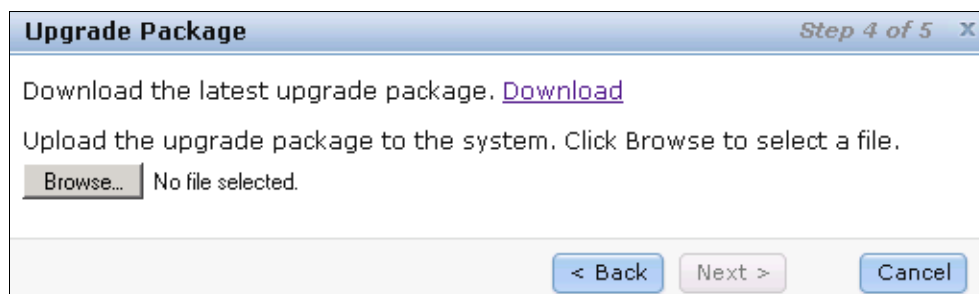

Figure 13-15 Downloading software code
8. Click **Next** to start the software upload procedure, and you are redirected to the window shown in Figure 13-15.